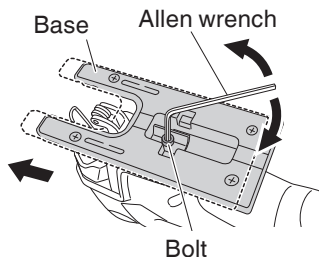

Fig. 12
- (1) Loosen the base bolt allen wrench attached on base. (Fig. 12)
- (2) Move the base fully forward, and tighten the base bolt again. (Fig. 12)
- (1) Loosen the base bolt by allen wrench attached on base and move the base fully forward. (Fig. 12)
- (3) Tighten the M5 bolt again. (Fig. 12)
- (4) Set the orbital position to "0".
- (1) Remove the allen wrench from the base.
- (2) Move the base fully forward. (Fig.12)